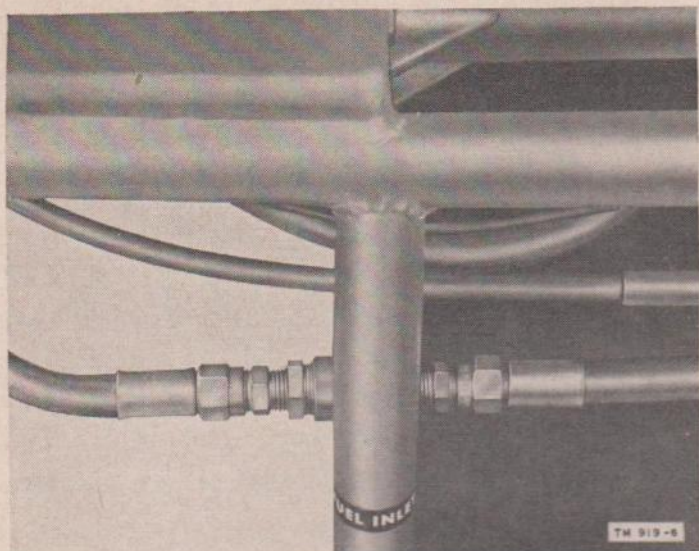

Figure 7. Fuel supply hose connection.
c. Connecting Fuel Hose. Connect the 20-foot fuel hose to the coupling assembly located near the fuel filter on the right side of the unit (fig. 7). Connect the opposite end to the fuel drum adapter. Mount the adapter in an externally